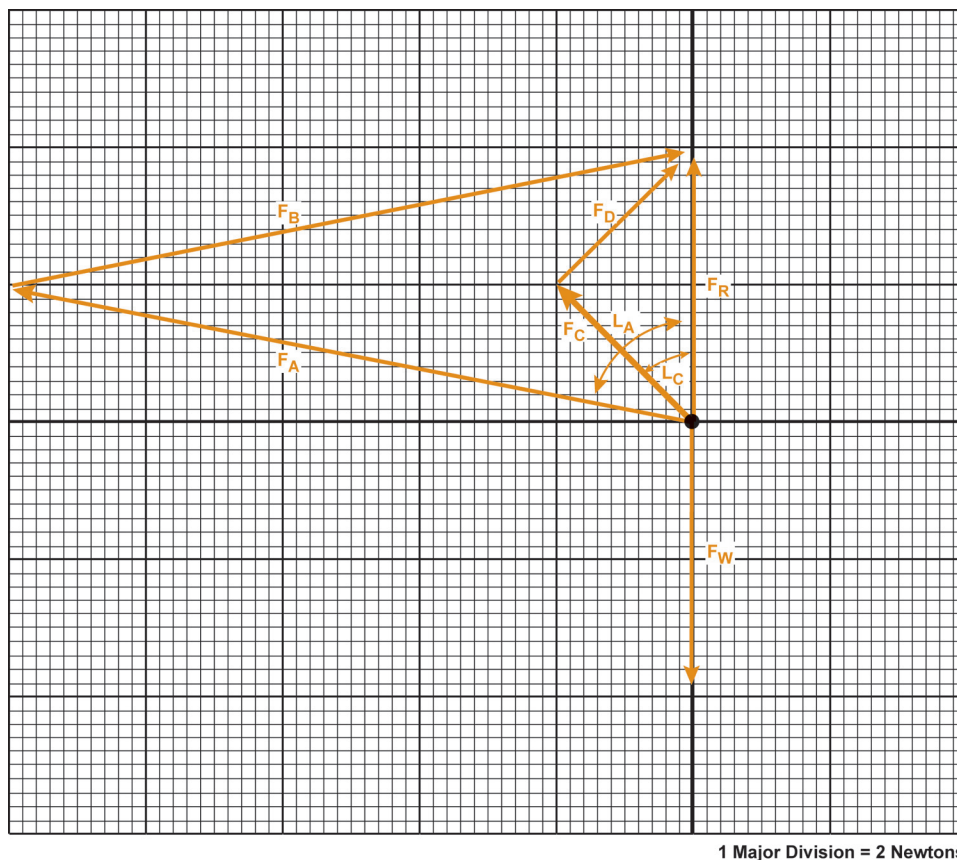

Figure 12
5. Looking at the vectors in Figure 12 below, the resultant vector can consist of the sum of vectors F_A and F_B or the sum of vectors F_C and F_D . Comparing the angles L_A and L_C , can we say that the vector (or the force that it represents) increases or decreases as the angle increases?